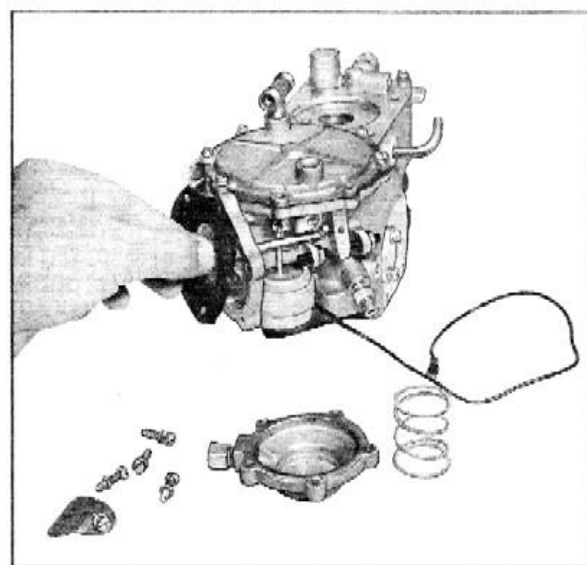

Fig. 21 Removing Enrichment Diaphragm
8. To remove the enrichment diaphragm, first remove the hairpin retainer securing the diaphragm rod to the enrichment lever. Then remove the five screws securing the enrichment diaphragm cover while holding the cover in place to prevent losing the spring when the cover is released, Fig. 21. Once the cover is removed, turn the diaphragm slightly to free the rod from the enrichment lever. This completes fuel meter disassembly.